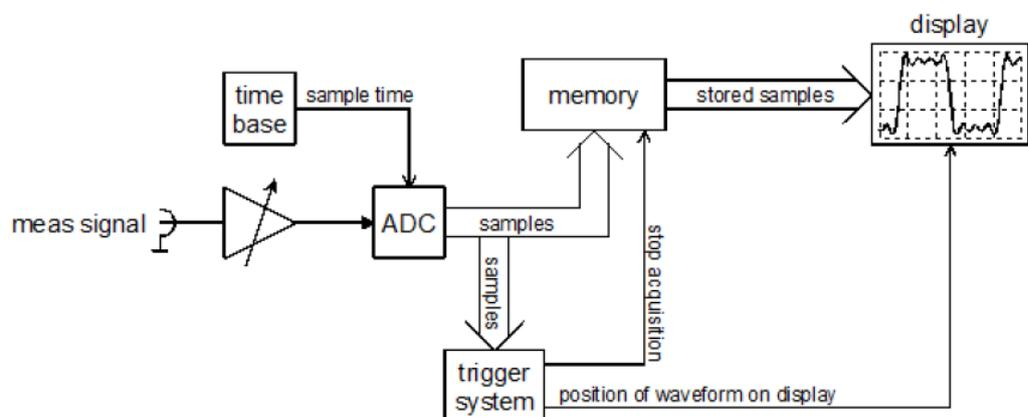

Fig. 12: Simplified digital trigger setup.
The trigger settings can be used to define the precise conditions under which a trigger should be initiated. The trigger point is set when all of the defined requirements are met by the signal at the same time. The oscilloscope has already continuously acquired data points, which are then used to fill in the pre-trigger portion of the acquisition. Once triggered, the oscilloscope acquires as many samples as required to complete the post-trigger portion, at which point the signal can be displayed on the monitor. Fig. 12 shows a simplified version of a digital trigger. This type of trigger system works directly with the ADC samples. (5)